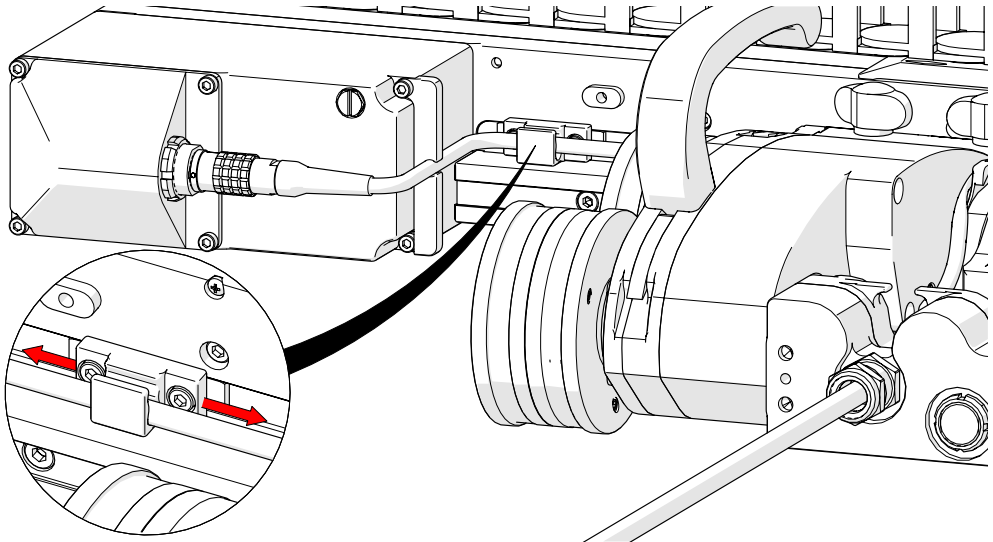

Fig. 113 - Adjustable cable clips
2. Route the cable through the adjustable clips on the raster arm (Fig. 113). These clips slide along the raster arm allowing the raster arm cable to be positioned as required.